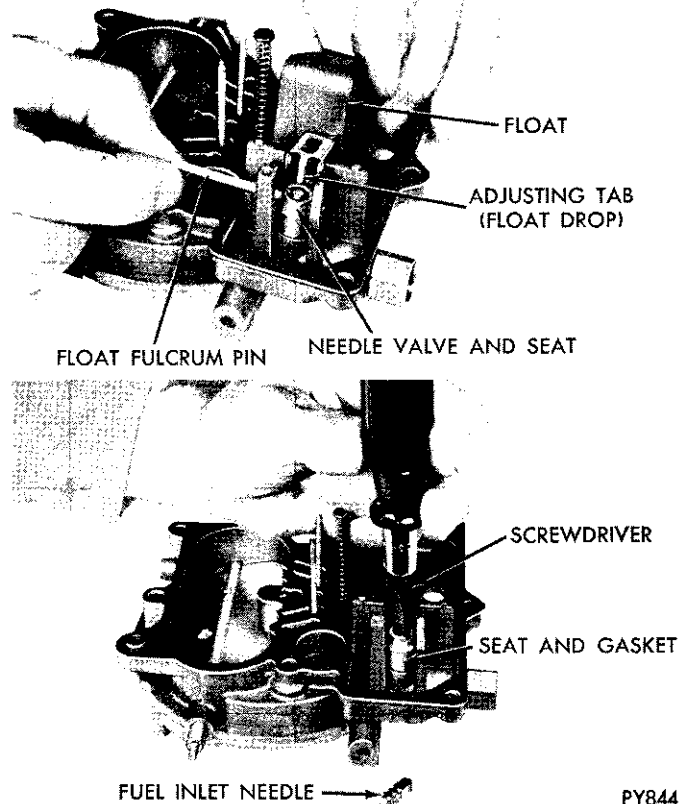

Fig. 10—Removing or Installing Float and Needle Seat
(12) Slide nylon float fulcrum pin out of air horn, then remove float. Invert air horn and drop out fuel inlet needle. Using a wide blade screw driver, remove fuel inlet needle valve seat and gasket (Fig. 10).
(13) Remove air horn gasket. (**Note: This gasket is a self sealing type and will stick to air horn mounting surface. Care should be used at removal so as not to**
(4) As plunger is being installed in air horn, slightly tilt plunger to engage with plunger shaft.
(5) Install fuel inlet needle valve seat and gasket in air horn. Tighten securely, using a wide blade screwdriver. Install fuel inlet needle in seat (Fig. 10).